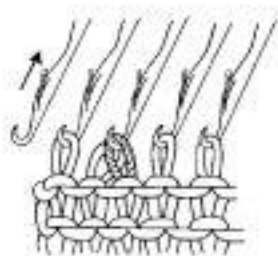

Fig. 45
- (a) Using the double eye Transfer Tool transfer the first and second stitches onto the second and third needles. (Fig. 45)